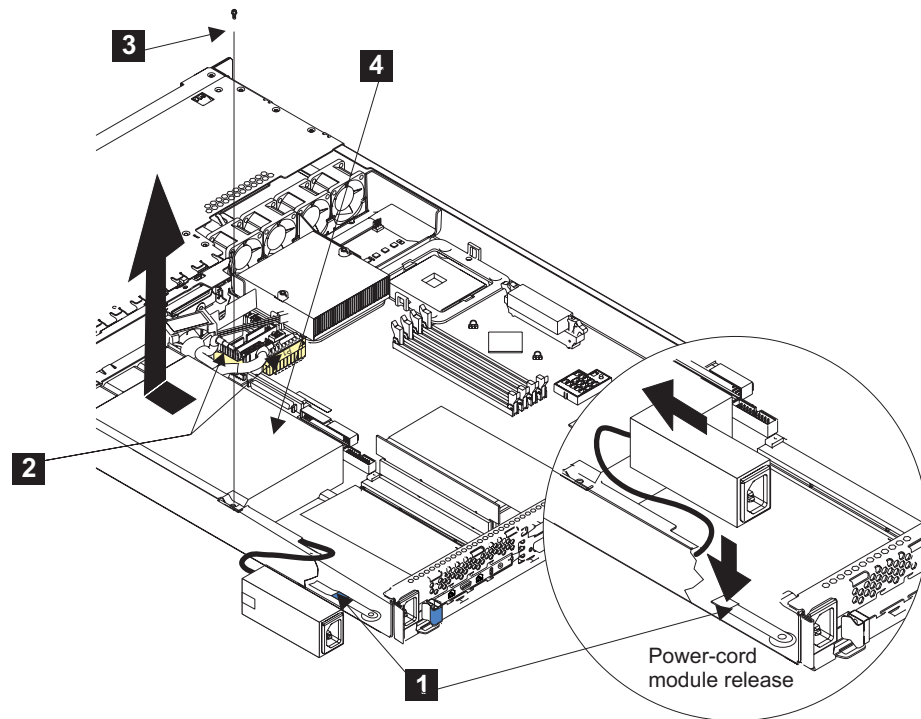

Figure 149. Replacing the SAN Volume Controller 2145-4F2 power supply
1. Slide the power supply **4** into the SAN Volume Controller 2145-4F2. See Figure 149 on page 421.